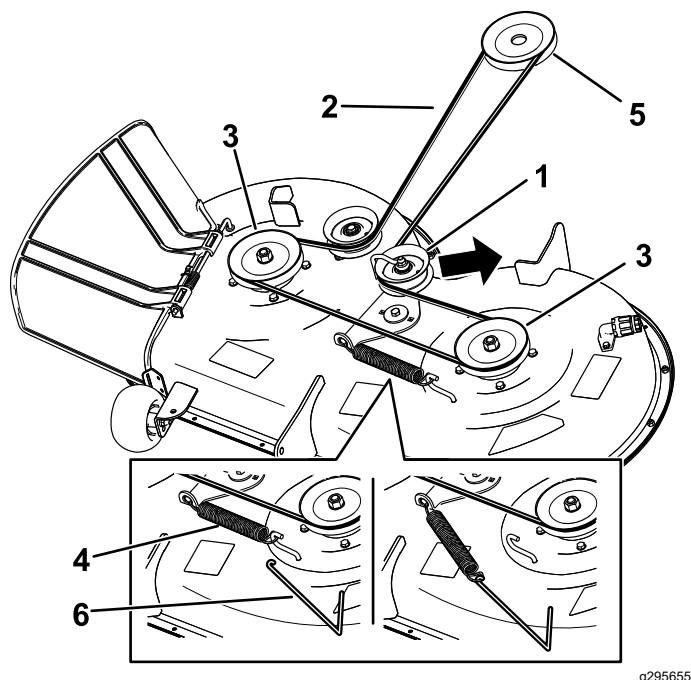

Figure 51
6. Using a spring-removal tool (Toro Part No. 92-5771), remove the idler spring from the deck hook to remove tension on the idler pulley, and roll the belt off the pulleys (Figure 51).
7. Route the new belt around the engine pulley and mower pulleys (Figure 51).
8. Using a spring-removal tool (Toro Part No. 92-5771), install the idler spring over the deck hook and place tension on the idler pulley and the mower belt (Figure 51).